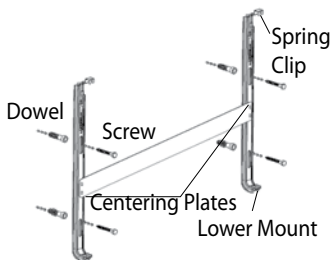
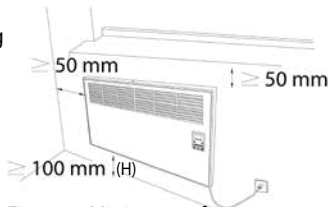
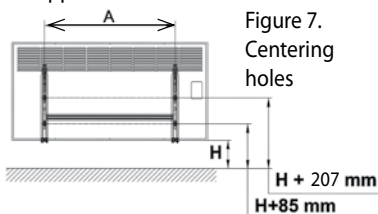

Figure 5. Wall mounting brackets
Figure 6. Minimum safety zones required for the efficiency of the appliance
Figure 7. Centering holes
2. Correct space has to be measured in order that the connection cord can easily be connected to the electric socket. After determining the place the holes for montage must be drilled according to the method shown in Figure 7. To fix this appliance you can use the wall mounting bracket. (Figure 5) Mounting bracket can be used as a template for positioning and drilling points. You can place the bracket on the wall and measure the space between the floor and the lower part of the bracket as min 100 mm or max. 200 mm. Mark the screw-holes through the holes with an appropriate pen. You have to be careful to ensure the safety zones are kept free in order that the appliance can work efficiently. (Figure 6.)